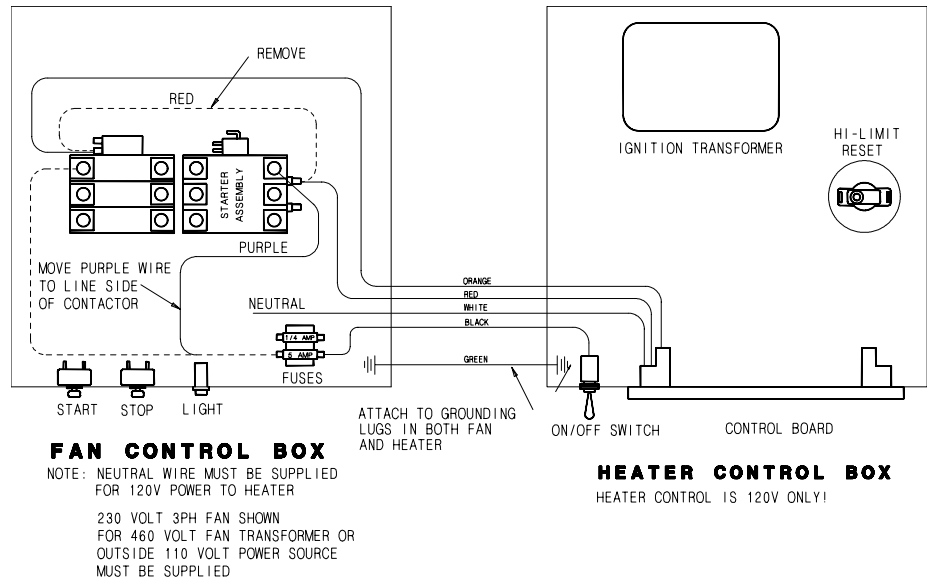

Figure 2: Wiring diagram for the fan and heater unit.
3. Run cord from heater unit to fan unit and connect as shown in Figure 2.